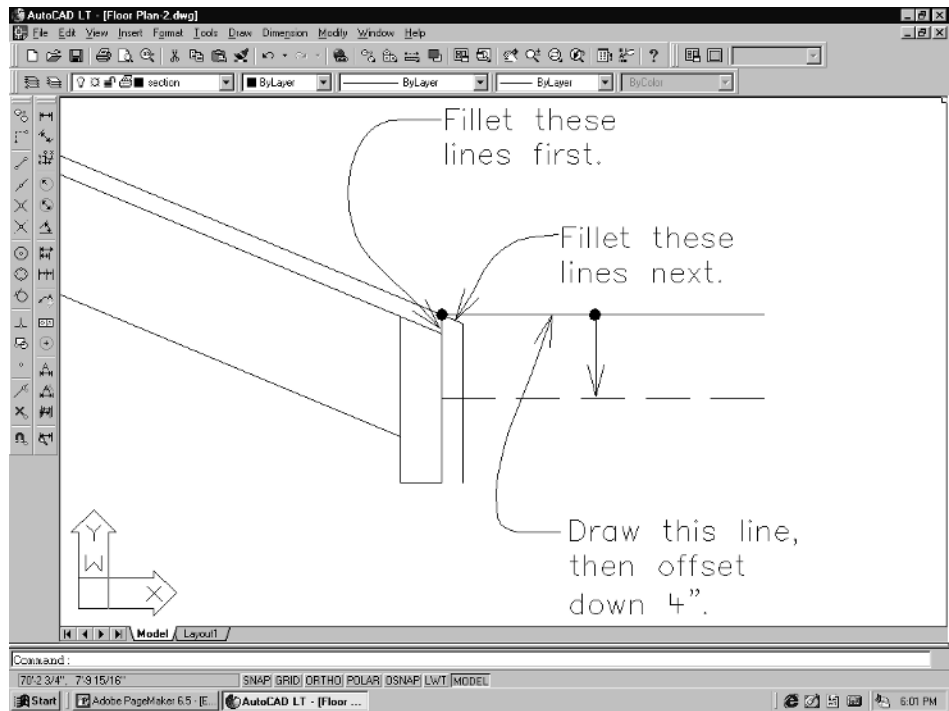

Figure 3-55
8. Fillet the lines as shown in Figure 3-55. Then draw a line to the right, from the intersection of the roof sheathing and the new trim line. Offset this line 4" down for the trim.